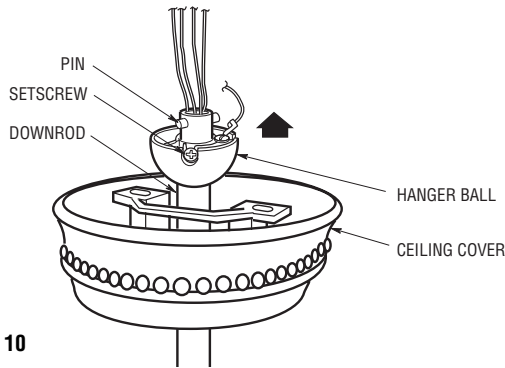

Figure 10
- 23. Position the ceiling cover over the downrod. Be sure the cover is oriented correctly, with the large opening at the top (Figure 10).
- 24. Reinstall the hanger ball on the downrod as follows. Route the motor leads through the hanger ball and slide the hanger ball over the downrod (Figure 10). Install the pin through the holes at the top of the downrod and slide the hanger ball up the downrod, aligning the ball so the pin is captured in the groove in the top of the hanger ball. Pull the hanger ball up tight against the pin and securely tighten the setscrew in the hanger ball. A loose setscrew could create fan wobble.